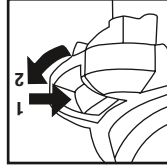

Fig. 2
2. Release the fast opening locks (Fig. 2)